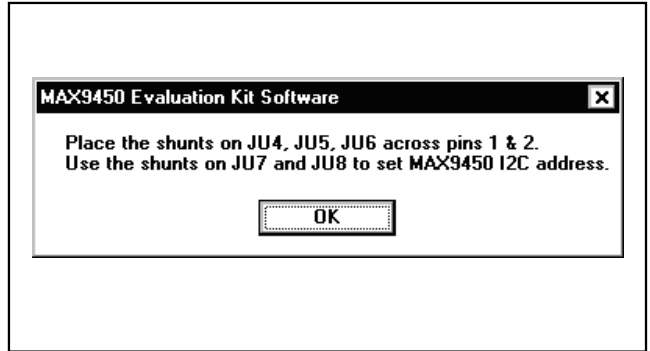

Figure 2. MAX9450 EV Kit Software—I2C Interface Notification Window
- 15) The **I2C** button allows you to evaluate the MAX9450 in I2C control mode. The **SPI** button allows you to evaluate the MAX9450 in SPI control mode. Click the **I2C** button. A small notification window appears, as shown in Figure 2.